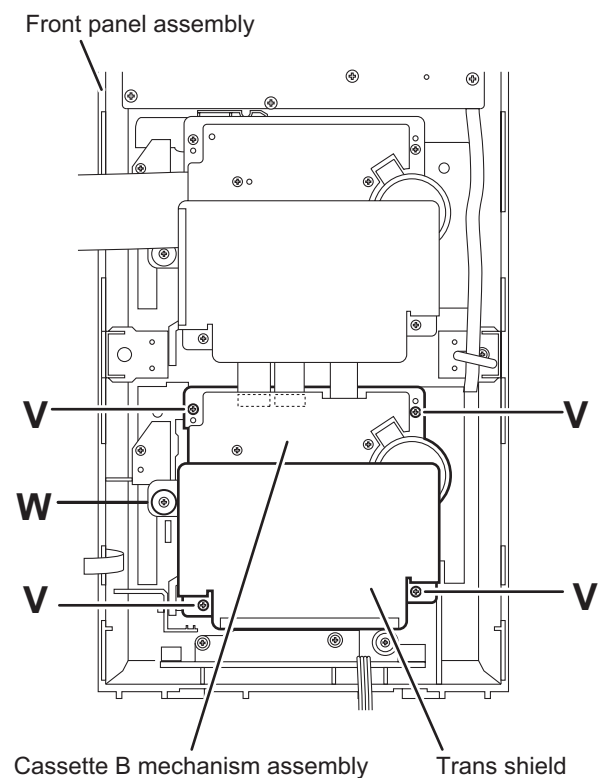

Fig.24
3.1.17 Removing the cassette B mechanism assembly (See Fig.24)